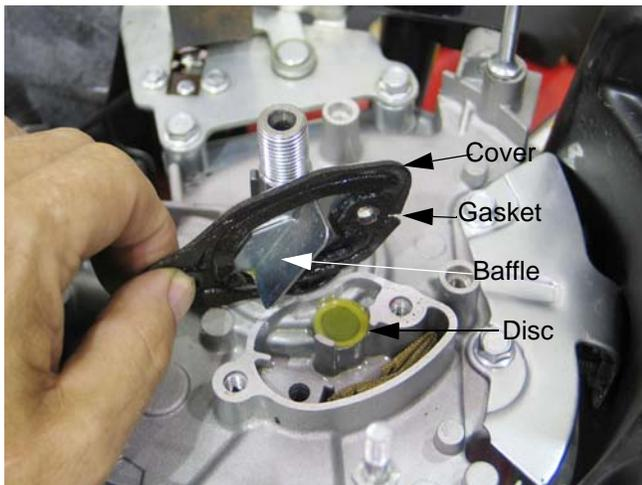

Figure 5.10
3. The cover and gasket can be separated from the chamber. See Figure 5.10.